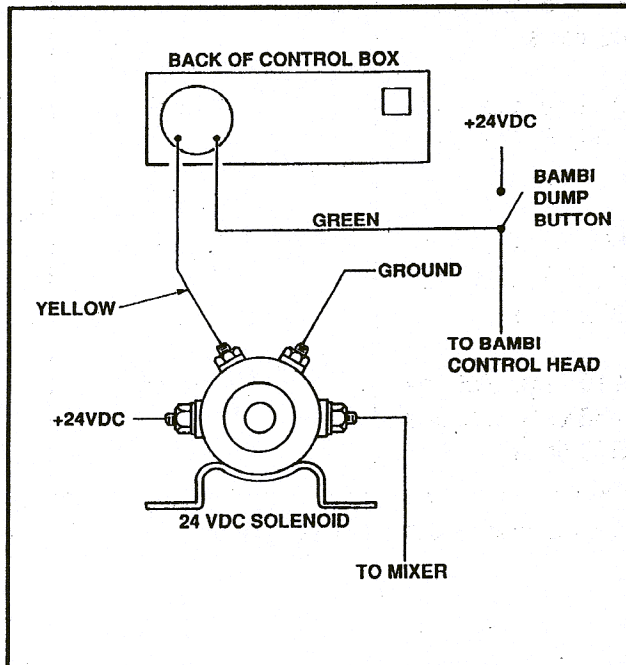

Fig. 10: Wiring diagram; control box with optional mixer.
Green mix ready light	Green light is on when unit is ready for next dispense cycle or mixer (if installed) is running. The green light (and mixer; if installed) will go off when the Bambi Bucket is dumped- if green wire (see Fig. 10) is hooked up to Bambi dump circuit.
1. Locate the short green and yellow wires on the outlet plug that connects to the control box. See Fig. 10.